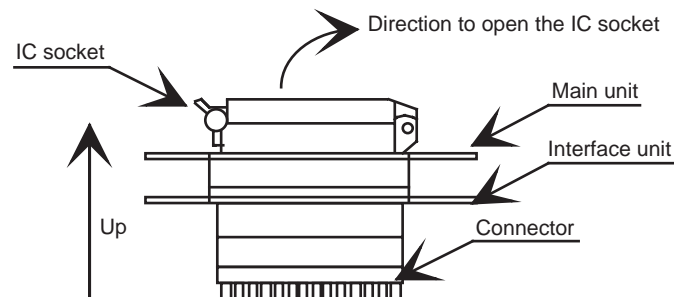

Figure 3.7 Opening and closing the IC socket
- When opening and closing the IC socket, hold the adapter horizontally as shown in Figure 3.7. Otherwise the inside of the IC socket may become damaged and cause an electrical insulation failure.